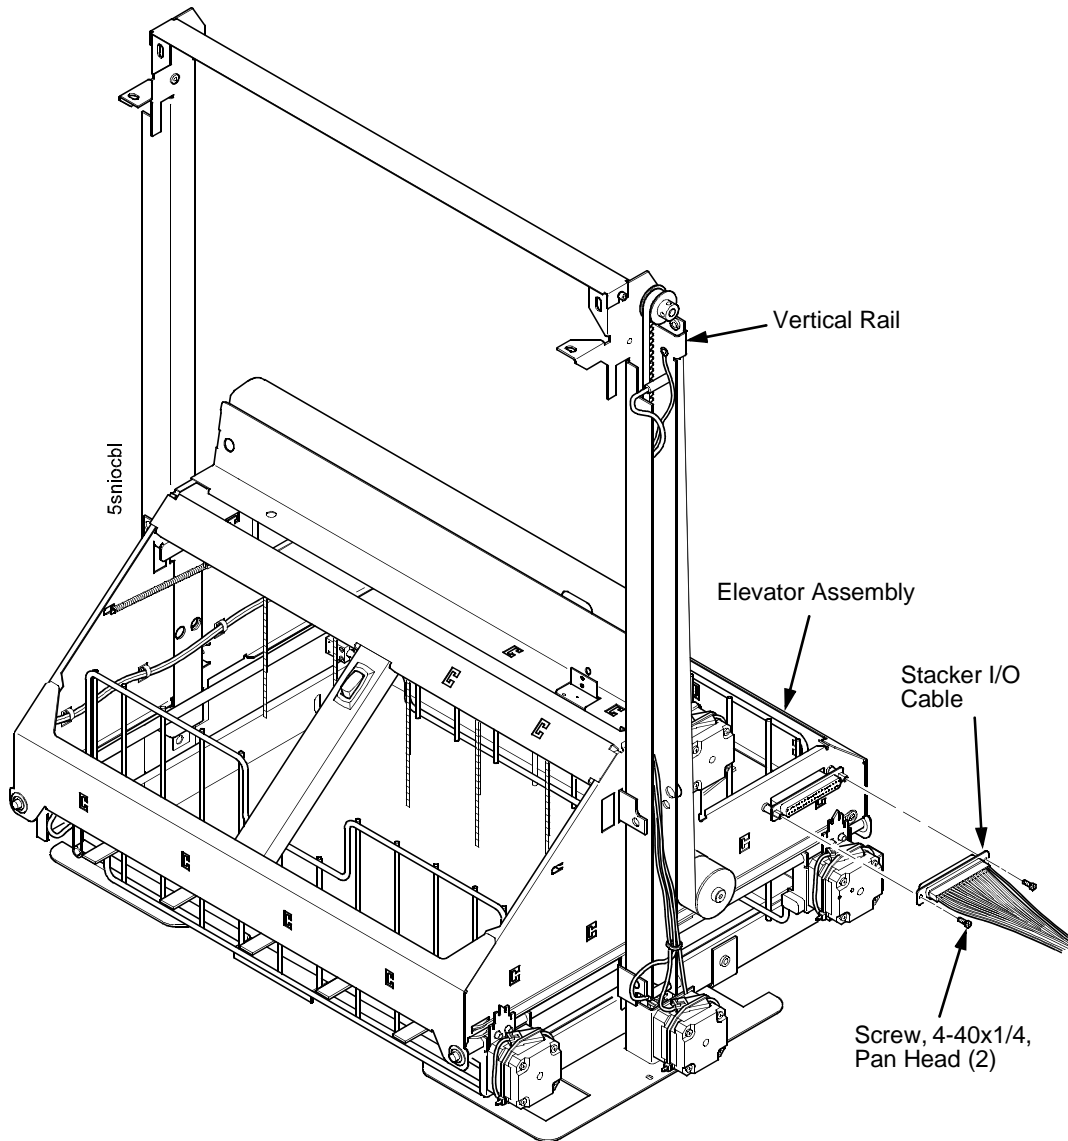

Figure 67. Disconnecting the Stacker I/O Cable
12. Remove the two 4-40 x 1/4 inch screws securing the elevator I/O cable to the elevator assembly and disconnect the stacker I/O cable. (Figure 67.)